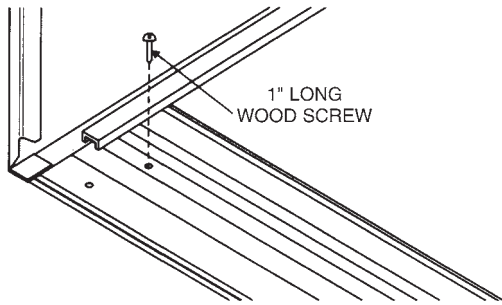

FIGURE 23 — SECURING BOTTOM RAIL OF CABINET
14. Secure bottom rail to wood frame with two large wood screws (1-in. long) using the two holes in the bottom of the channel. See Fig. 23.